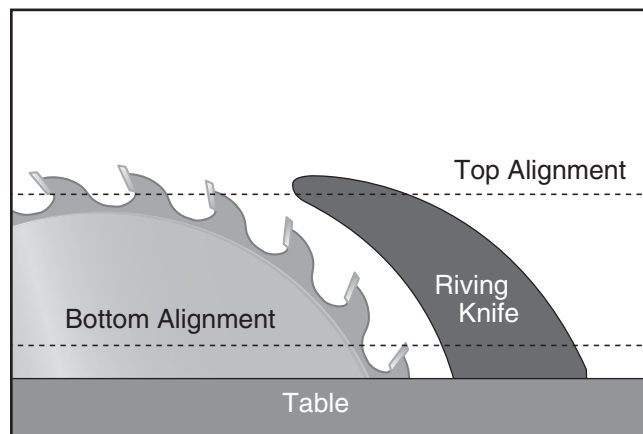
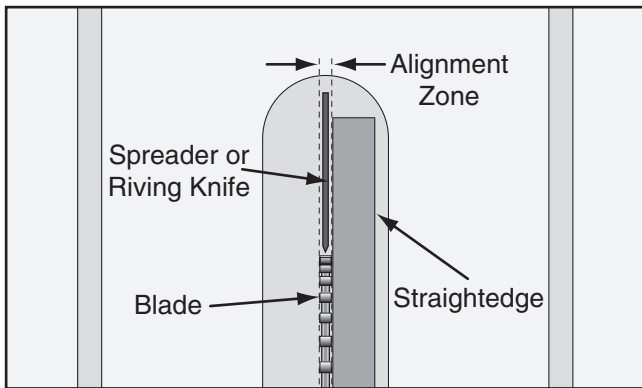

Figure 115. Checking top and bottom riving knife parallelism with blade.
Figure 116. Spreader/riving knife alignment zone.
4. Place the straightedge against the top and bottom of the blade and spreader/riving knife, as shown in **Figure 115**. The spreader/riving knife should be parallel with the blade along its length at both positions and should be in the "Alignment Zone," as shown in **Figure 116**.